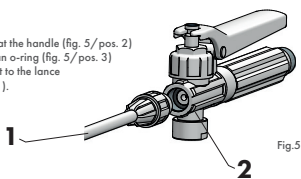

Fig. 5
Make sure that the handle (fig. 5/pos. 2) is fitted with an o-ring (fig. 5/pos. 3) and connect it to the lance (fig. 5/pos. 1).